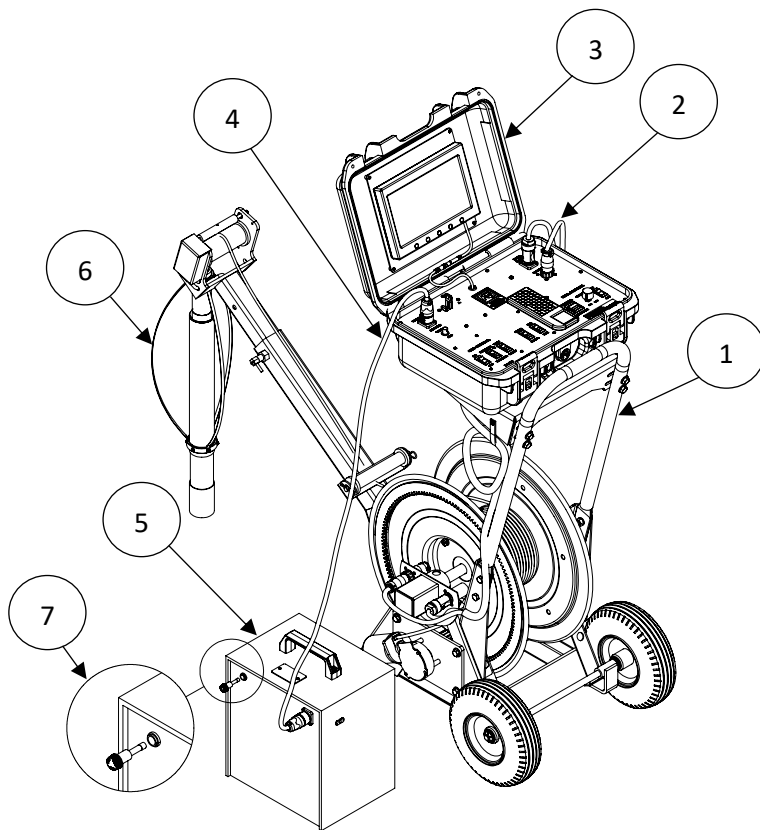
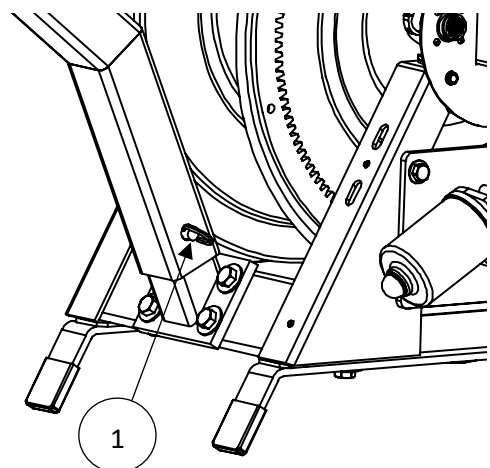
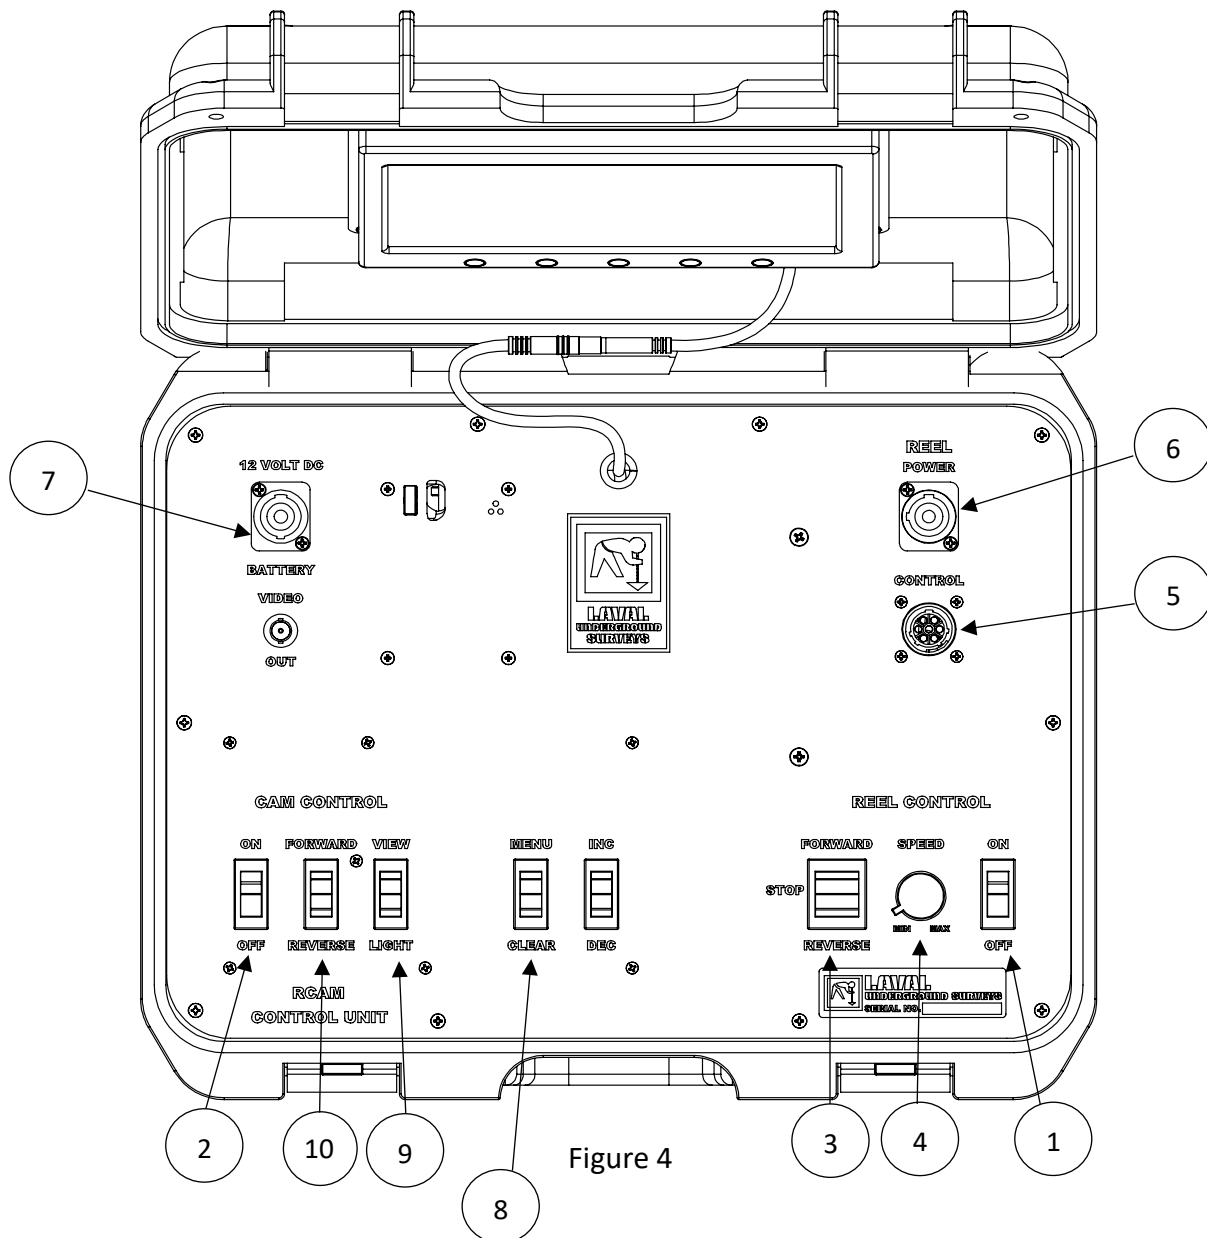

Figure 1
Figure 2
Figure 4
1. Remove the 12V Battery Pack (Figure 1 Item 5) and insert the Battery Fuse and Cap into the Fuse Holder (Figure 1 Item 7) on the battery pack.
3. Unpack the Reel Assembly (Figure 1 Item 1). To reposition the Boom Arm: remove the locking pin at the base of the Boom Arm (Figure 2 Item 1), rotate the Boom Arm 180 degrees, place the Boom Arm back on the base, and replace the locking pin.
5. Ensure the REEL CONTROL Power (Figure 4 Item 1) and CAM CONTROL Power (Figure 4 Item 2) Switches are in the OFF Position.
6. Position the Reel Control FORWARD-STOP-REVERSE Switch (Figure 4 Item 3) to STOP and the SPEED Control Dial (Figure 4 Item 4) to MIN.
7. Connect the Reel Control and Power Cable (Figure 1 Item 2) from the Reel Assembly (Figure 1 Item 7) to the REEL CONTROL (Figure 4 Item 5) and REEL POWER (Figure 4
Items 6) Connectors on the Control Unit (Figure 1 Item 3). Connect the Power Cable (Figure 1 Item 4) from the Control Unit 12 VDC input (Figure 4 Item 7) to the 12 VDC Battery (Figure 1 Item 5).
1. Turn the SPEED Dial (Figure 4 Item 4) all the way to MIN.
2. Place the REEL CONTROL Power Switch on the Control Unit in the ON position (Figure 4 Item 1).
3. Flip the Reel Control FORWARD-STOP-REVERSE Switch (Figure 4 Item 3) to the FORWARD position and turn the SPEED Dial (Figure 4 Item 4) slowly towards the MAX.
4. Run out enough cable so that the Camera (Figure 1 Item 6) when connected is centered above the hole.
5. Position the REEL CONTROL Power Switch to OFF (Figure 4 Item 1).
1. Position the CAM CONTROL Switch (Figure 4 Item 2) and REEL CONTROL Power Switch (Figure 4 Item 1), on the Control Unit, to ON.
2. Turn on the LCD Monitor. While watching the Monitor to verify operation Switch between side and down view and adjust light intensity, with the VIEW-LIGHT Switch (Figure 4 Item 9). The LED lighting should light up with the view selected. The light intensity of the view selected can be changed by pressing LIGHT; this will cycle through 5 light intensity levels. Check the rotation by using the Cam Control FORWARD-REVERSE Switch (Figure 4 Item 10); both the Down View and Side Views will rotate.
3. Rewind any excess cable by using the Reel Control functions (Figure 4 Items 1, 3 and 4) to position the Camera in the well, near the top. Press the Menu Function CLEAR Switch (Figure 4 Item 8) to reset depth counter to zero (0000.00ft).
2. **DO NOT** connect or disconnect the Camera with the Control Unit CAM CONTROL **ON-OFF** Switch **ON** (Figure 4 Item 2).
5. **CAUTION** Before connecting Power to the Control Unit be sure the REEL CONTROL Power ON-OFF Switch is OFF (Figure 4 Item 1), CAM CONTROL ON-OFF Switch is OFF (Figure 4 Item 2), SPEED Control is set to MIN (Figure 4 Item 4), and FORWARD-STOP-REVERSE Switch is at the STOP or center position (Figure 4 Item 3).
A 12V DC battery (Figure 1 Item 5) housed in a black box with a lifting handle and an external battery charger are provided with the system. An LCD voltmeter with protective cover is located on top of the housing.